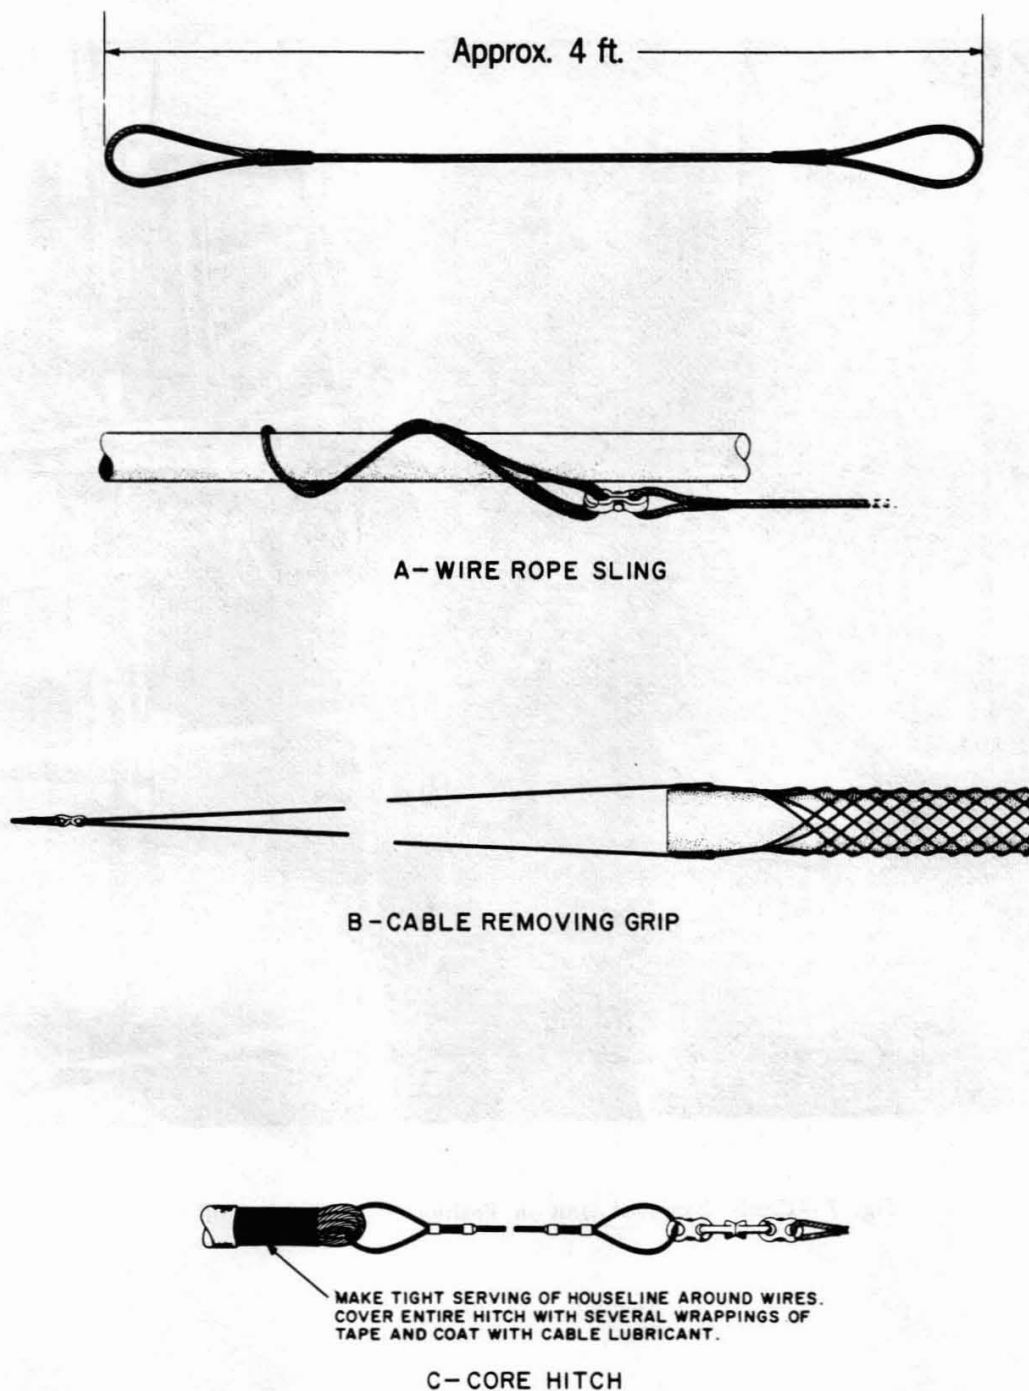
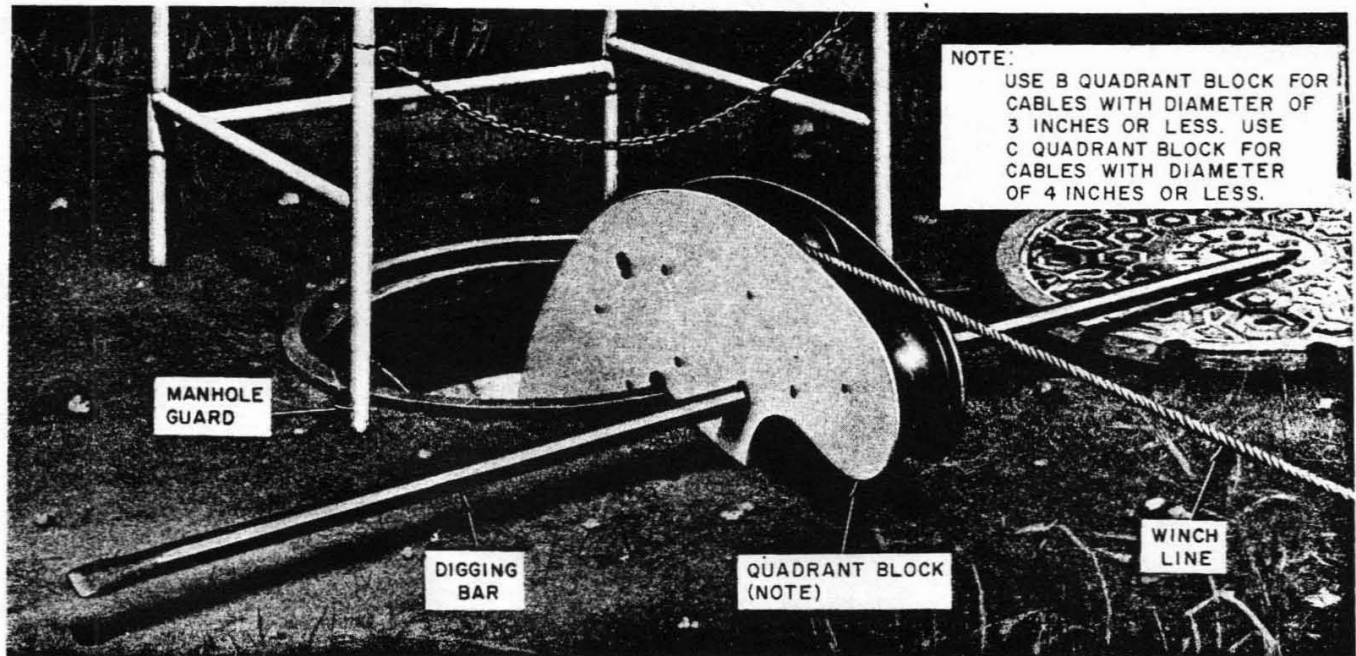

Fig. 6—Wire Rope Sling, Cable Removal Grip, and Core Hitch
Fig. 14—Pulling Arrangement Using Quadrant Block
5.03 Unrack the cable to be removed and with a wire rope sling, a cable removing grip, or a core hitch (Fig. 6), secure the cable to a wire rope line. The wire rope line must be long enough
- 6.05** Unrack the cable to be removed and with a wire rope sling, a cable removing grip, or a core hitch (Fig. 6) secure the cable to the winch line. Set a quadrant block or C manhole sheave on the edge of the manhole frame (Fig. 14).